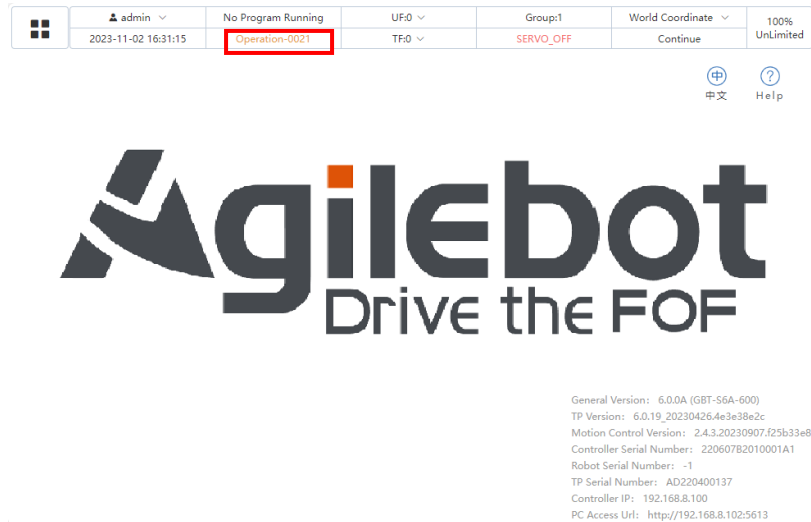
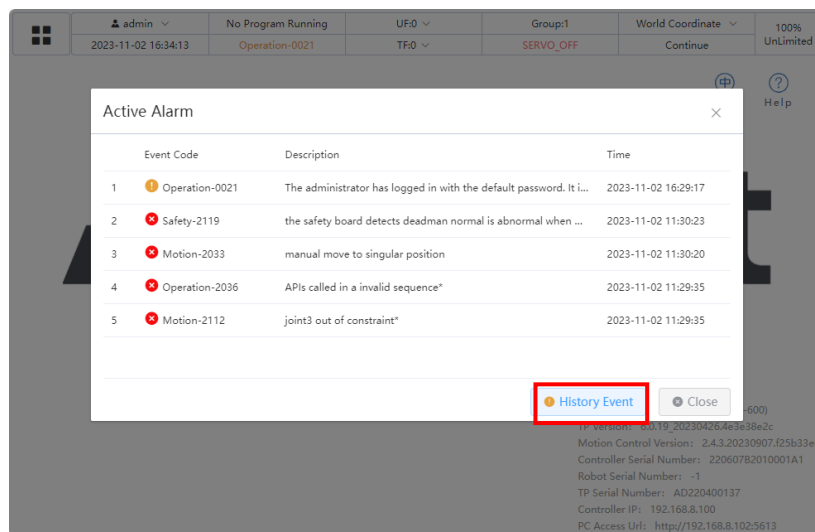

Fig. 3.1 Main Screen of Teach Pendant
Fig. 3.2 Active Alarm Popup
1. In the main screen of the teach pendant, click on the tab in the red box below in Fig. 3.1 for the Active Alarm to pop up as shown in Fig. 3.2.